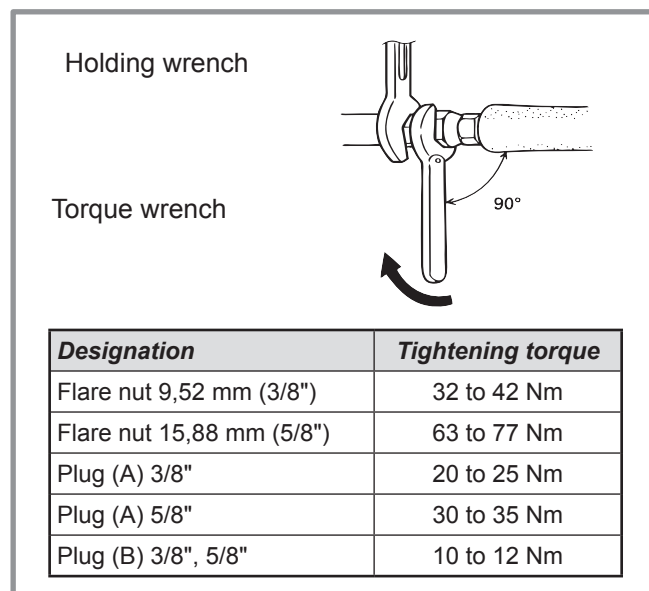

figure 16 - Tightening torque
- Remove the access plugs (A) from the valve controls.
- Refit the 2 original caps (be sure they are clean) and tighten them to the recommended tightening torque (figure 16, page 19). The sealing is performed in the caps only metal to metal.